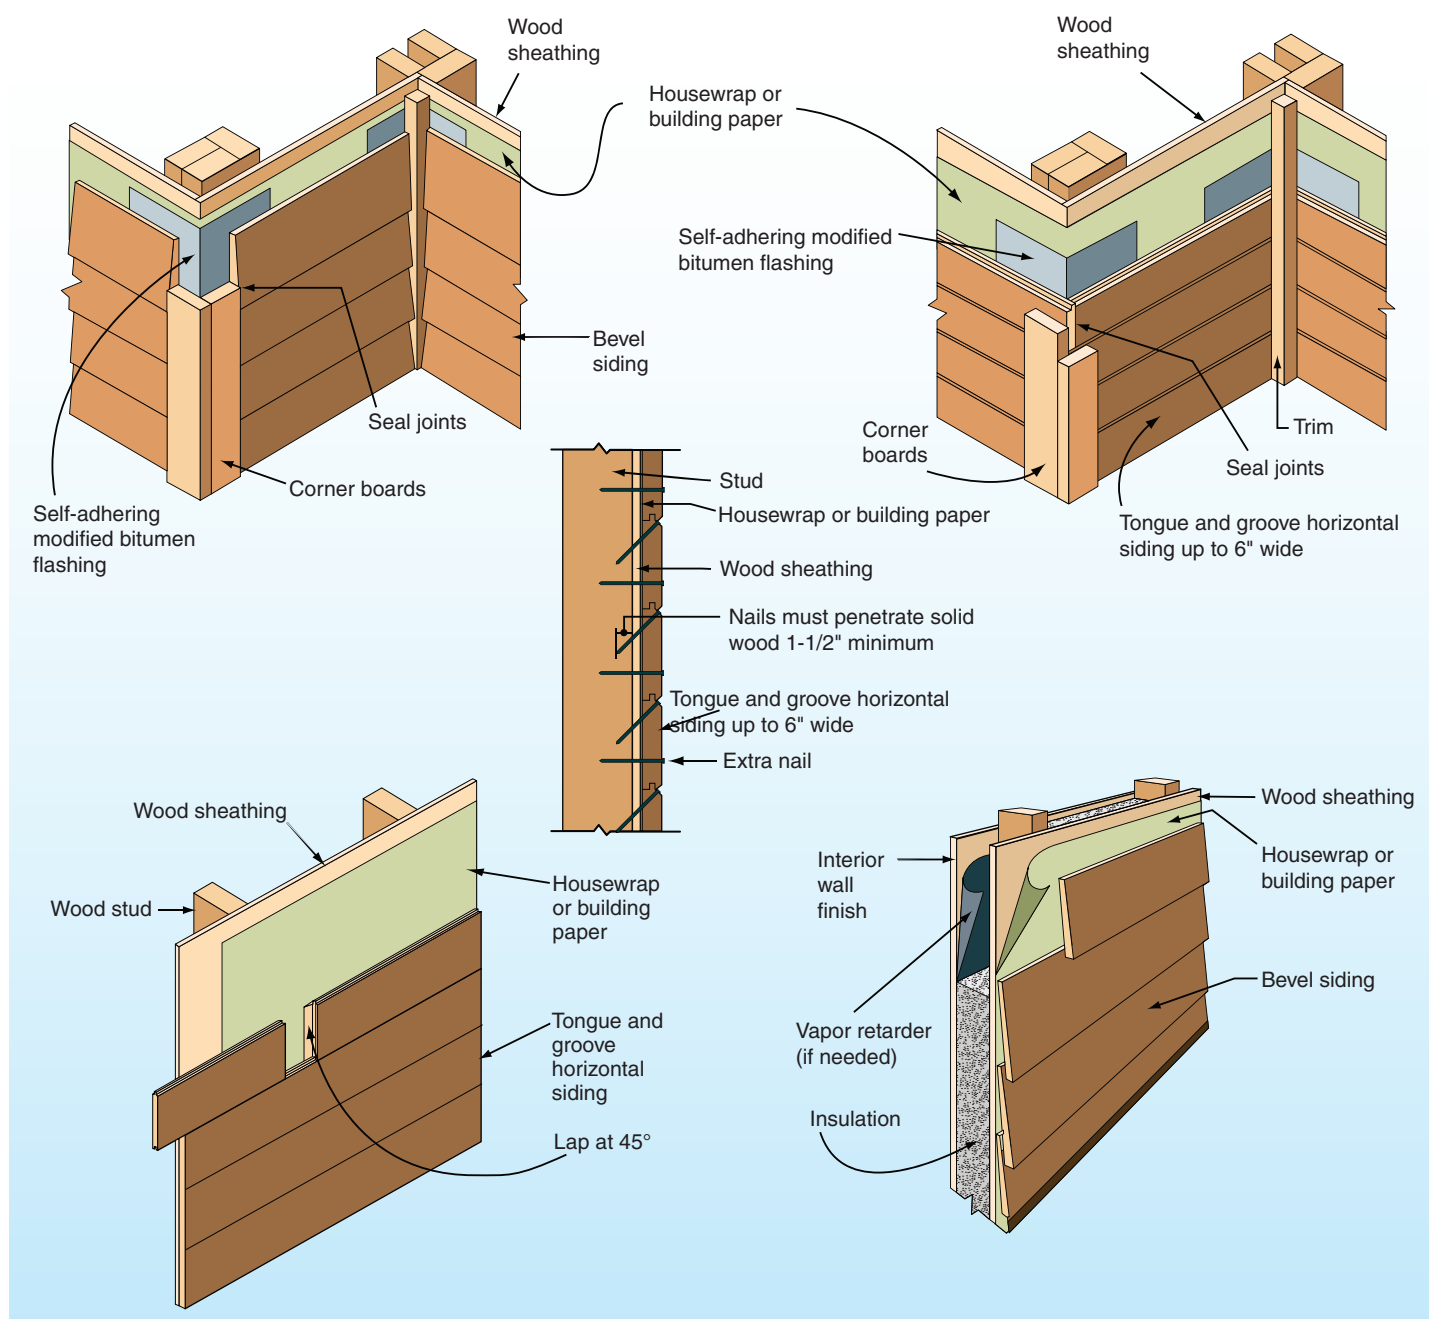

Figure 8. Wood siding installation details.
- Follow the installation details shown in Figure 8. (Note: Although these details do not show a rain screen, inclusion of vertical furring strips to create a rain screen is recommended.)